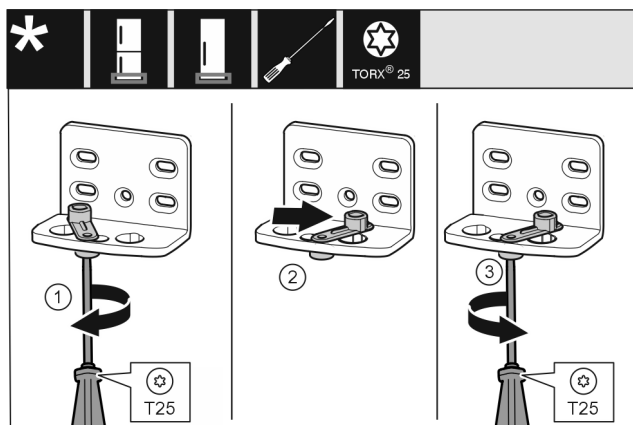

Fig. 15
- ▶ Use screwdriver to loosen the screw Fig. 15 (1).
- ▶ Lift the door closing aid Fig. 15 (2) and turn 90° clockwise in the hole.
- ▶ Tighten screw Fig. 15 (3) with screwdriver.